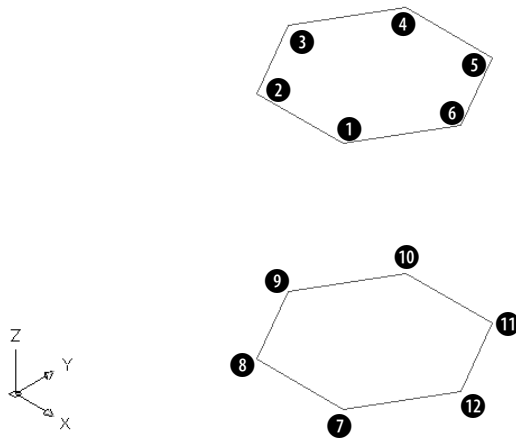

Figure 23-8: The two hexagons are the basis for a night table.
2. Save it as ab23-02.dwg in your AutoCAD Bible folder. Two hexagons have been drawn, one 24 inches above the other, on the Const layer, as shown in Figure 23-8.
Specify location for vertex 1: Pick ❶ in Figure 23-8.